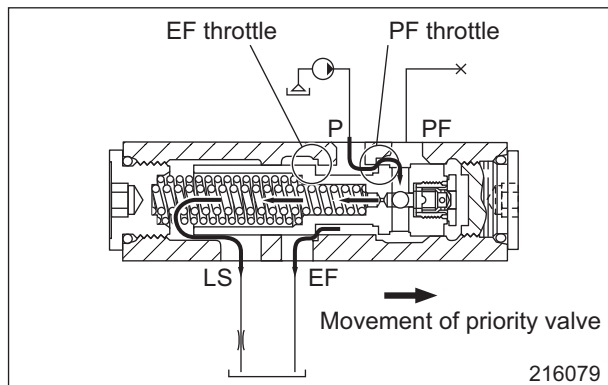

Fig. 6 Operation when LS port under load pressure
- (2) When the pressure in the LS port increases, the spool moves in the direction to close the EF throttle because the pressure difference before and after the control orifice decreases. This movement increases EF throttle resistance, and the EF throttle resistance causes the pressure in the pump to increase. As a result, the pressure difference before and after the control orifice remains constant (Fig. 6).